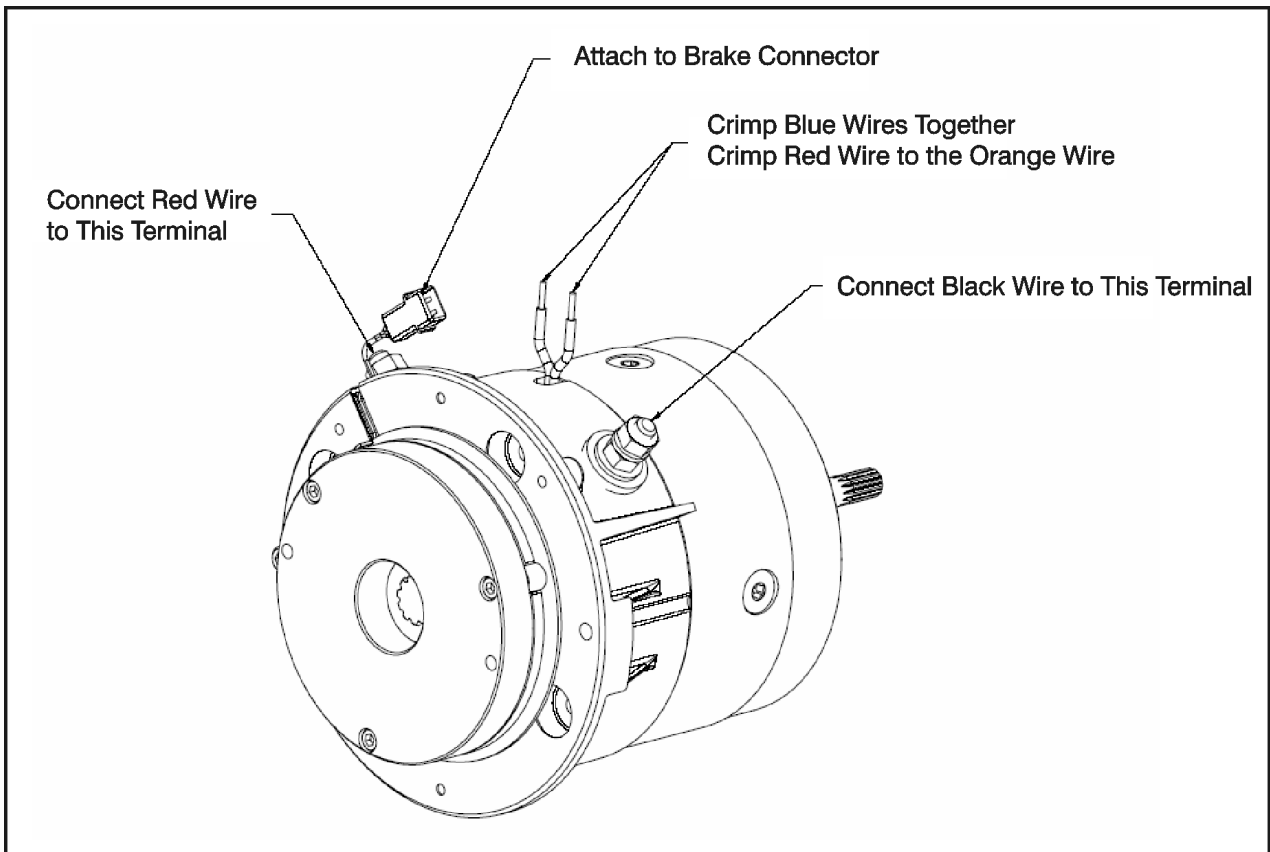

Figure 3-17. Wire Harness Connections
1. After inspection and servicing, reassemble the wiring in the Commutator End Head (9) as originally found. Ensure the wiring does not contact metal parts and that it allows the brushes to move unrestricted in the holders. Motor terminals must be assembled as shown Figure 3-17. Torque bottom terminal nut to 110 - 140 in-lb (12.4 - 15.8 Nm).